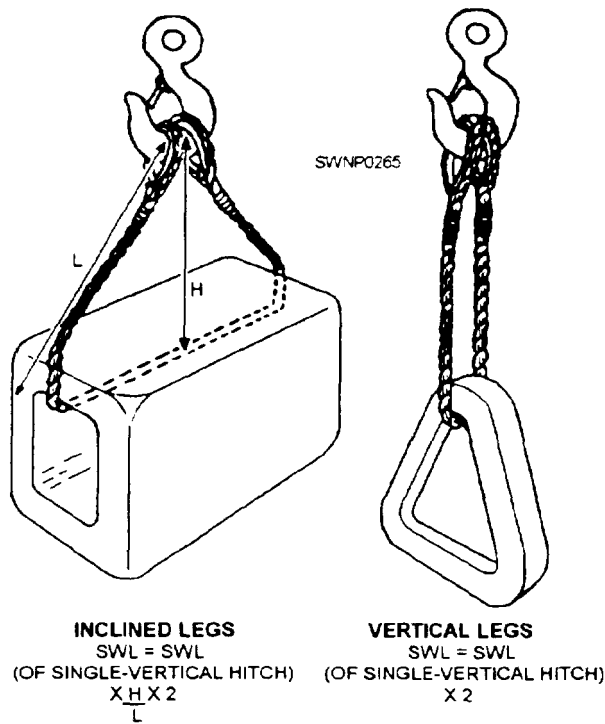

Figure 6-18.—Determination of single-basket hitch sling capacity.
**Single-basket hitch** (fig. 6-18):